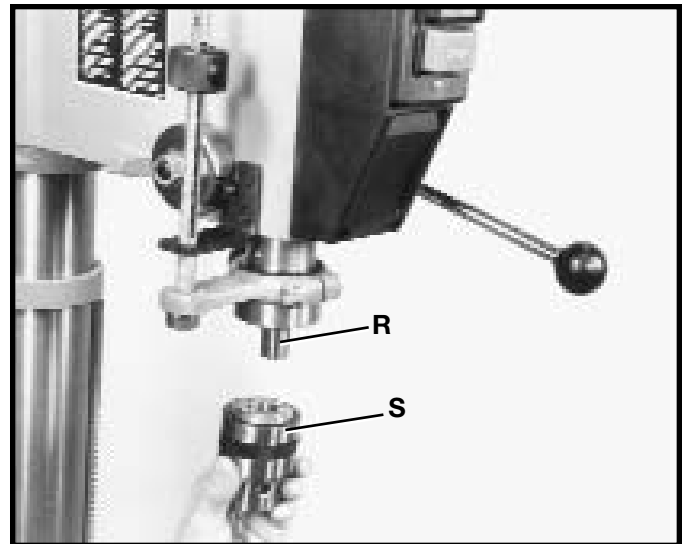

Fig. 8
6. **IMPORTANT:** Make certain the spindle (R) Fig. 8, and chuck (S) are free of any grease, lacquer or rust preventive coatings. **NOTE:** If necessary, household oven cleaner can effectively remove these coatings from the spindle and chuck; however, carefully follow the manufacturer's safety rules regarding its use.
7. Insert chuck (S) Fig. 8, onto spindle (R) as far as it will go.